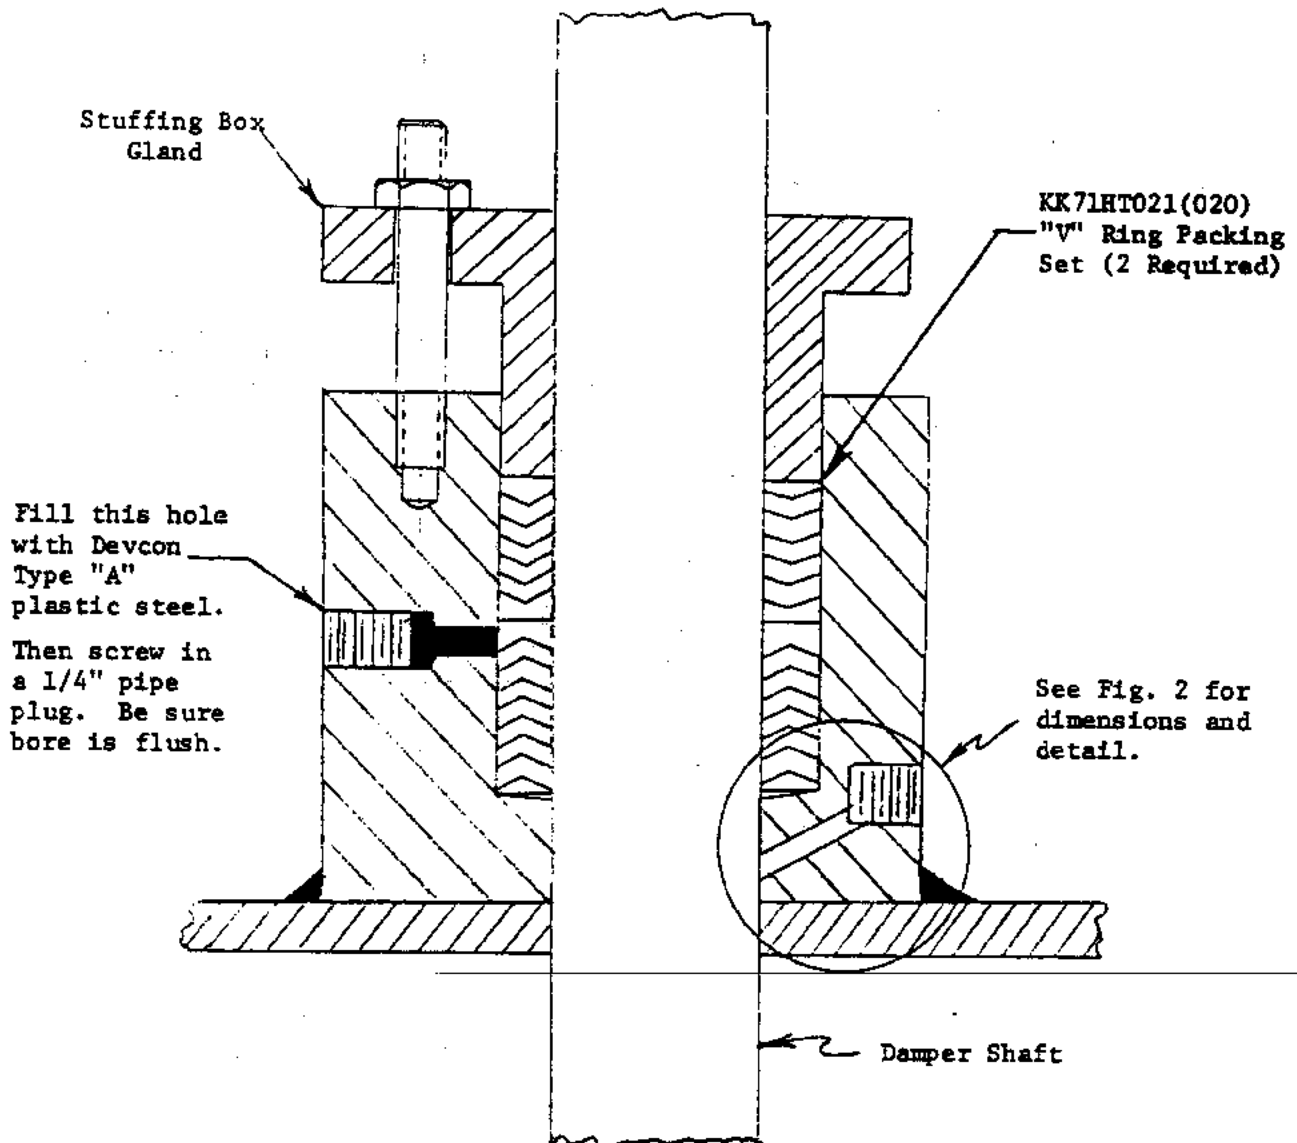

Fig. 1. Section Through Stuffing Box
- 6) Fill about half of the hole with Devcon Type "A" plastic steel (see Figure 1). Be sure the Devcon is flush with the bore of the stuffing box. Let it dry thoroughly.